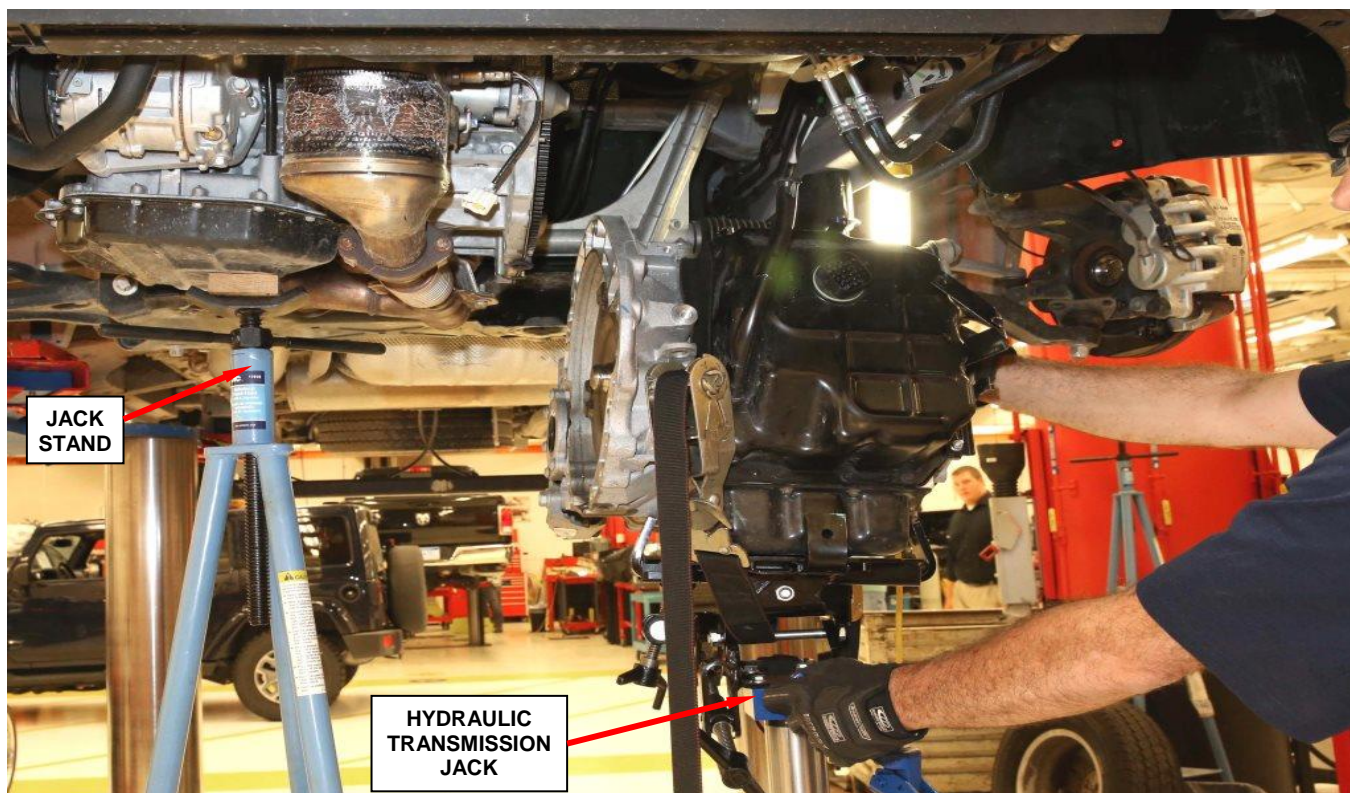

Figure 31 – Lower Transaxle from Vehicle
41. Carefully lower the transaxle from the vehicle (Figure 31).